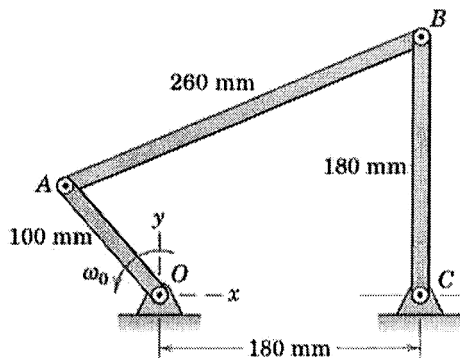

Fig. 5
5. (a) In the four-bar linkage (**Fig. 5**), control link OA has a counterclockwise angular velocity of $\omega_0=10\text{rad/s}$, during a short interval of motion. When link CB passes through the vertical position shown, point A has coordinates $x=-60\text{mm}$ and $y=80\text{mm}$. Determine the angular velocities of AB and BC . (10)
(b) For the same four-bar linkage (**Fig. 5**), if OA has a constant counterclockwise angular velocity of $\omega_0=10\text{rad/s}$, calculate the angular acceleration of the link AB and BC for the position of A as shown ($x=-60\text{mm}$ and $y=80\text{mm}$). Link BC is vertical for this position. (10)